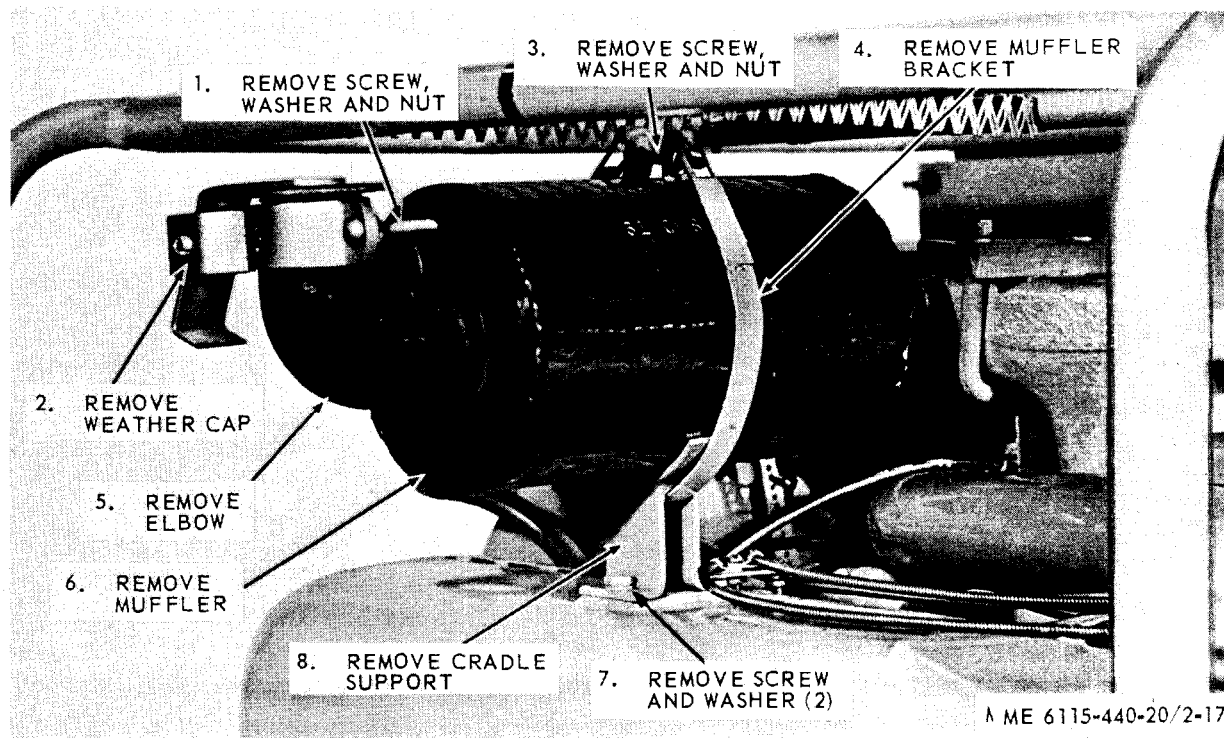

Figure 2-17. Muffler and weather cap, removal and installation.
a. Removal. Refer to figure 2-17 and remove the muffler and weather cap.
b. Installation. Refer to figure 2-17 and install the muffler and weather cap.